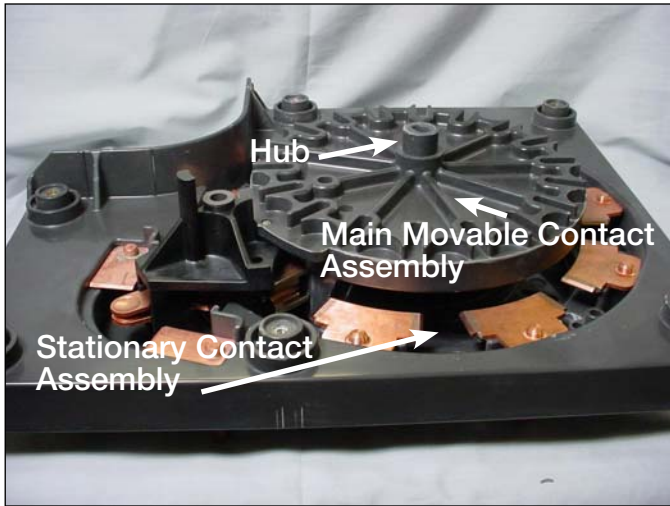

Figure 20.
- Align the center hub of the main movable contact assembly with the center hole in the tap changer drive assembly. See Figures 20 and 21.